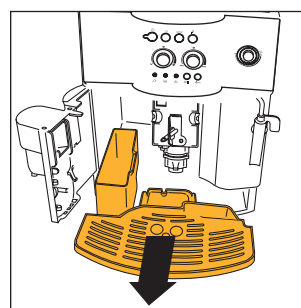

Fig.16
NOTE 7: the machine counts the number of cups of coffee made. Each 14 single cups (or 7 double cups), the ☹ light switches on steady (chap. 12 point 3), warning the user that the grounds container is full and must be emptied and cleaned. Until the grounds container has been cleaned, the light will remain on and the machine cannot deliver coffee. To clean, open the service door at the front by pulling the spout (fig. 15). The ☹ light flashes (see par. 12 point 9). Remove the drip tray (fig. 16), empty and clean. Empty and carefully clean the grounds container, making sure to remove all the residues that may be deposited on the bottom. Also dry any drops of condensate that may have formed inside the machine under the drip tray. **IMPORTANT:** when removing the drip tray, the grounds container **MUST** be emptied, even if it is not completely full. If this is not done, when next making coffee the grounds container may fill over the maximum level and block the machine with lumps of coffee grounds.
- remove the drip tray and the grounds container (Fig. 16) and clean them;